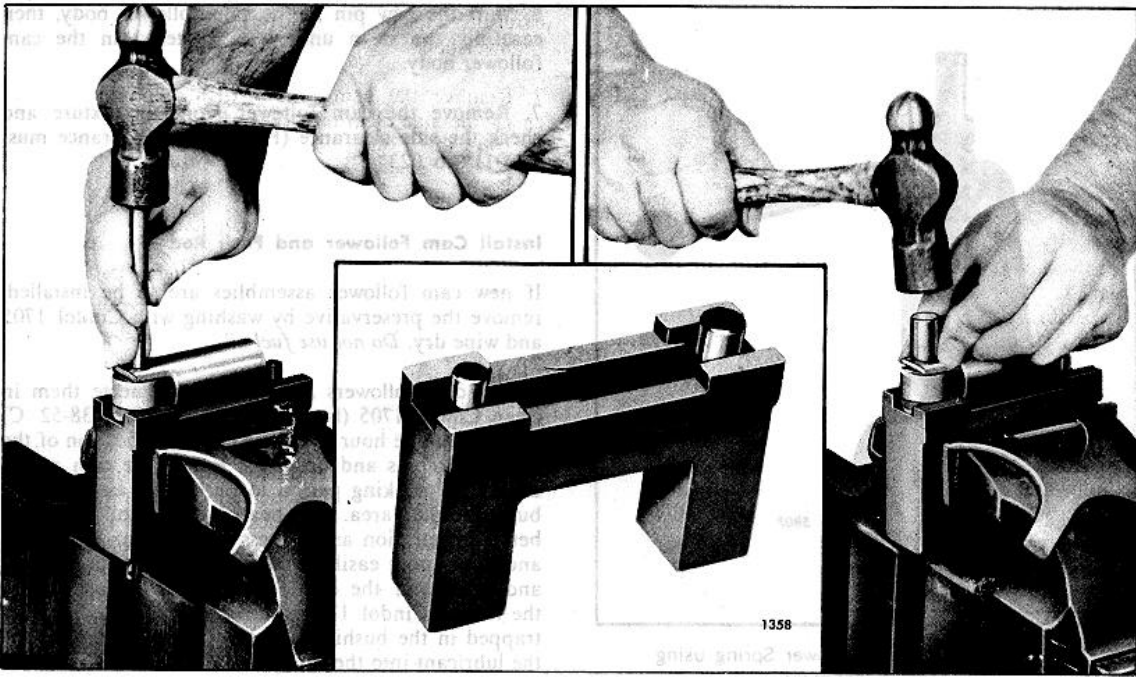

Fig. 8. Removing or Installing Cam Follower Roller using Tool J 5840-01
1. Clamp fixture J 5840-01 securely in a vise as shown in Fig. 8. Then place the cam follower in the groove in the top of the fixture, with the follower pin resting on top of the corresponding size plunger in the fixture.